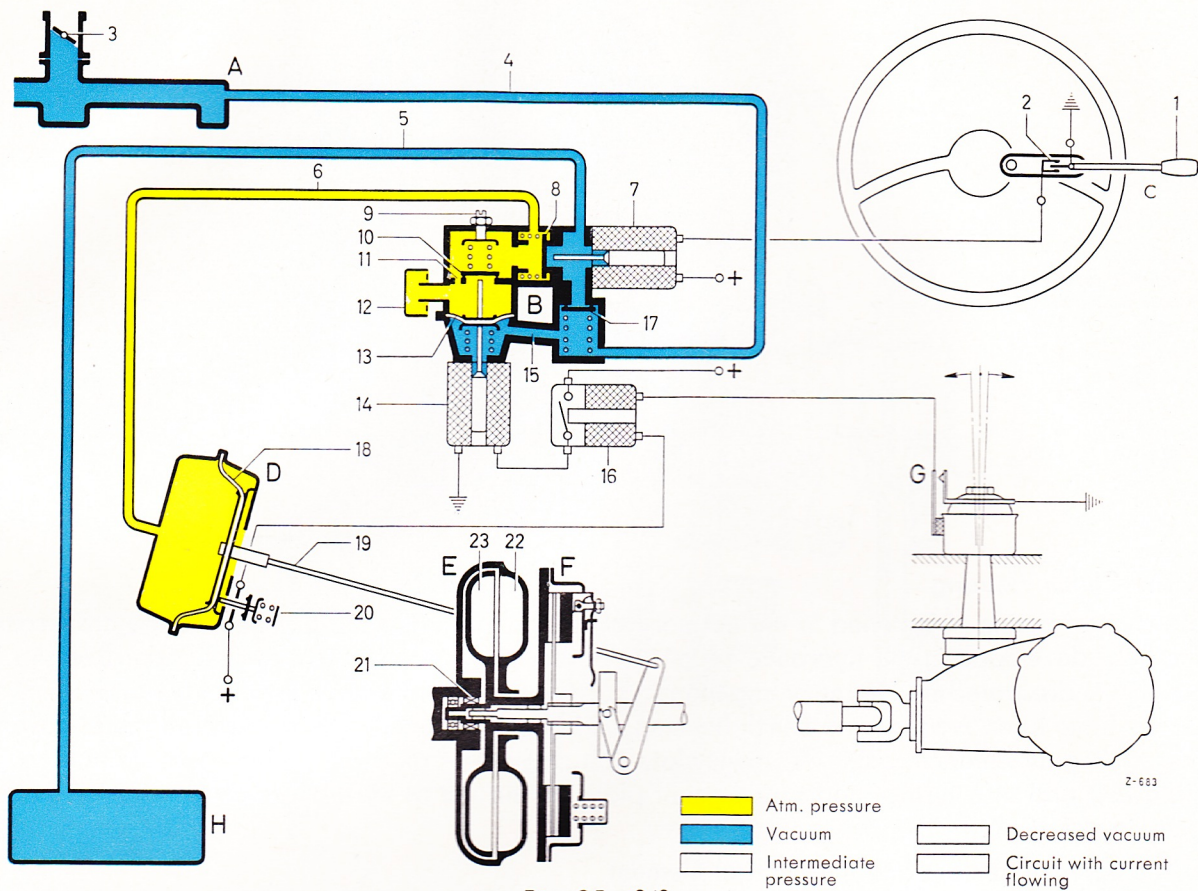

Fig. 25 - 0/8
When the engine is running, and particularly when it is idling with the throttle valve (3) only slightly opened, a considerable vacuum prevails in the engine intake manifold. This vacuum is transmitted via the vacuum line (4), the check valve (17) and the vacuum line (5) to the supply reservoir (H) (Fig. 25 - 0/8).